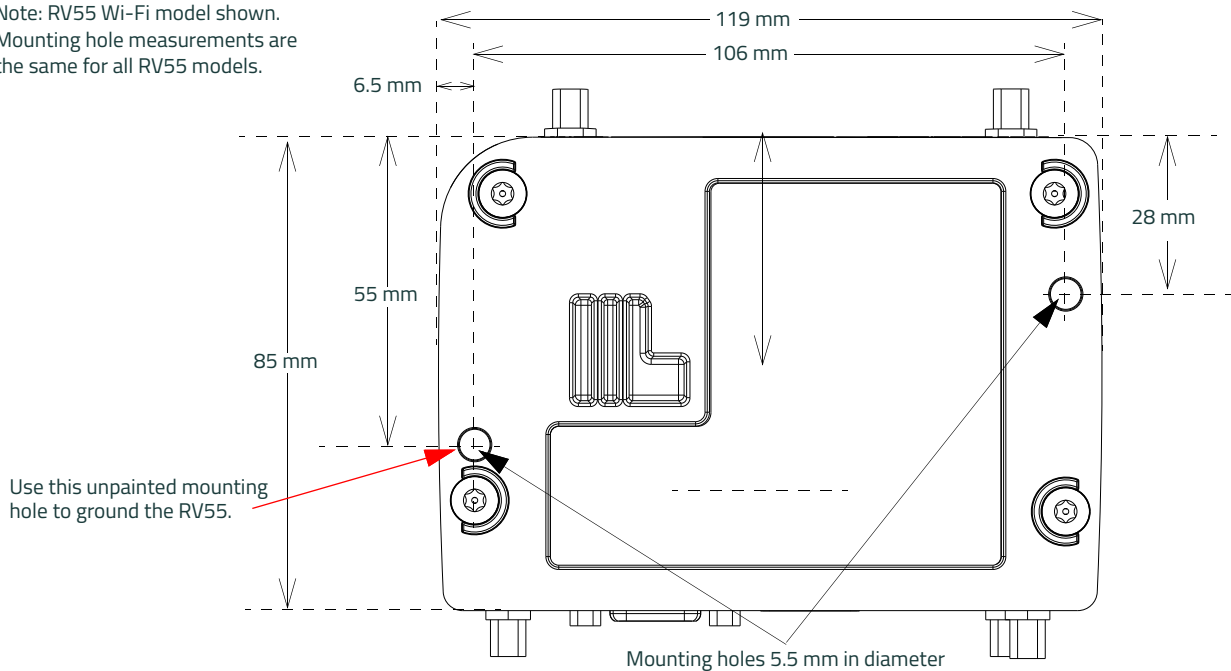

Figure 2-2: RV55 Router Mounting Hole Locations and Dimensions
Note: When mounting the router in a location that could be exposed to rain (such as in a vehicle door panel, which would expose the router when the door is opened), mount the router vertically with the power connector and ports facing down, as shown in Figure 2-2. The router meets its IP64 rating when mounted in this orientation.
- Connect one end of a short 18 AWG or larger gauge wire to the unpainted upper left mounting hole (see Figure 2-2) and connect the other end to the system ground reference or (if mounted in a vehicle) the vehicle chassis.